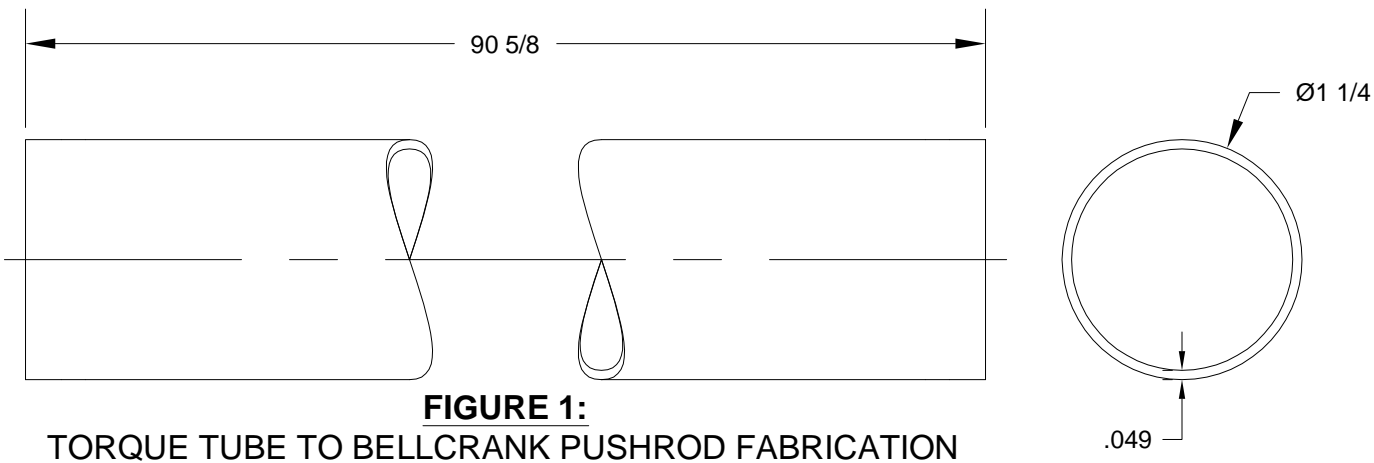

FIGURE 1:
Step 1: Fabricate two W-1017A Torque Tube to Bellcrank Pushrods by cutting two pieces of AT6-049 X 1 1/4 to the length shown in Figure 1.
Step 2: Cut-out Page 23-10, Figure 1 and use it as a wrap-around template for locating the rivet holes in both ends of both W-1017A Torque Tube to Bellcrank Pushrods. Use clear tape to make the template into a ring and align it with the end of the pushrod. Center-punch the "cross hairs" in the wrap-around template. Remove the template and use a #40 drill to make six pilot holes in each end of both torque tube to bellcrank pushrods. Deburr the hole edges on the inside of the pushrod tubes.